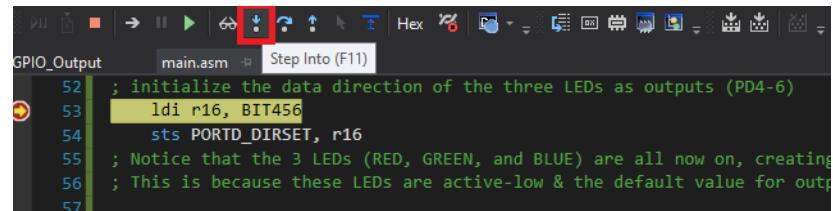

Figure 17: Step Controls for Program Debugging.
11. To execute the next instruction within your program, you can click the *Step Into* icon as shown in *Figure 17*. Step through the program code, identifying changes that occur to the registers within PORTD, as well as to the microcontroller's internal GPIO registers.